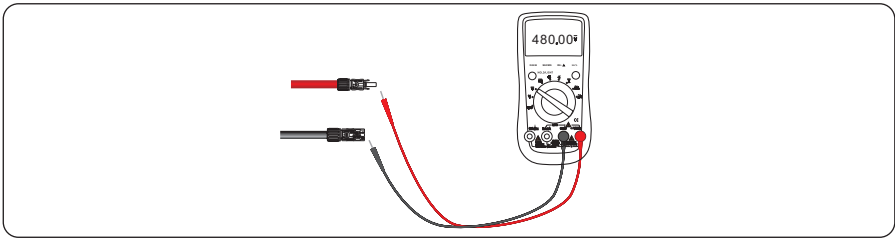

Figure 5.14 Checking the voltage of every route Strings
Step 5 Measure the voltage of every route Strings using a multimeter. Ensure that the polarities of the DC input power cables are correct, as shown in Figure 5.14.